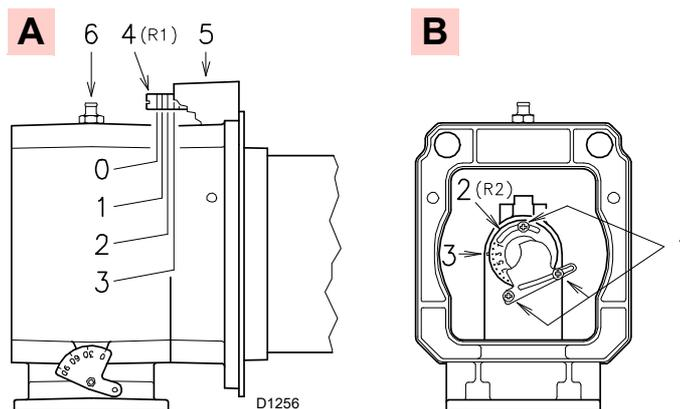

Fig. 18
At this stage of installation the blast tube and the pipe coupling are secured to the boiler as shown in A)(Fig. 18).
- air R1 A)(Fig. 18)
- gas/air R2 B)(Fig. 18)
- Rotate the screw 4)(Fig. 18) until the notch you have found corresponds with the front surface 5)(Fig. 18) of the flange.
To facilitate the adjustment, loosen the screw 6) (Fig. 18), adjust, then block.
- Loosen the 3 screws 1)(Fig. 18) and rotate the ring nut 2) until the notch you have found corresponds with the index 3).
If the gas pressure allows it, by closing the ring nut 2)(Fig. 18) you obtain reductions in the formation of NOx.